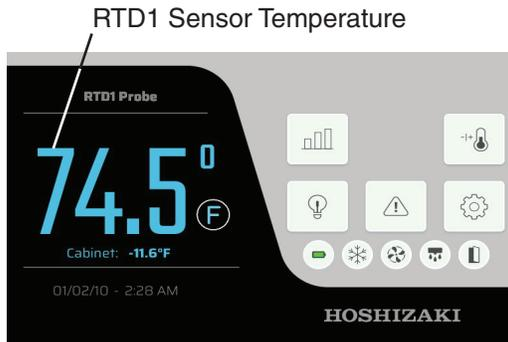

Fig. 19
- 1) Press and release the center of the RTD1 probe temperature display. The touchscreen setup view is shown. See Fig. 19.